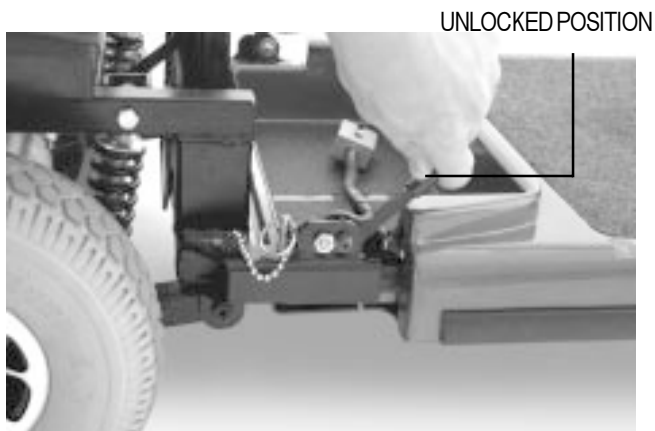

FIGURE 25. LOCKING CAM LEVERS
10. Push the locking cam levers forward and remove the ball detent pins. See figures 25 and 26.